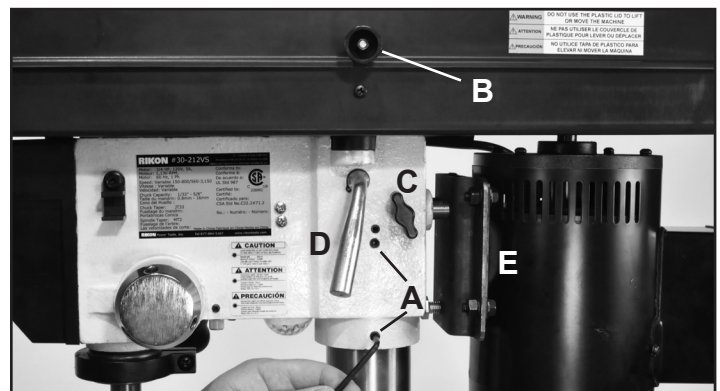

FIG. 6
2. Secure the drill press head to the column by tightening the two set screws (#3) on the right side of the head. FIG. 6, A.
3. If not pre-installed at the factory, install the small, pulley cover Knob (#109) onto the right side of the top lid. Open the belt cover and insert the machine Bolt (#108) through the hole in the lid from the inside. Place the knob on the bolt, outside of the belt cover, and fasten it in place with Nut (#110). Secure the cover in place by rotating the knob. FIG. 6, B.
NOTE: Figures 6 & 7 also show the motor Lock Knobs (#67, C), Tension Lever (#89, D) and the motor Mount Assembly (E) that are referenced in the section on Changing Drill Speeds on page 14.
2. Loosen the belt tension by moving the motor closer to the head casting. Loosen the two Lock Knobs (#67) and with 16mm wrench turn the motor plate's leveling Bolt (#137) clockwise towards the motor. Then pull the Tension Lever (#89) forward to shift the motor mount assembly forward. See page 10, Figures 6 & 7 for photos identification of these parts.